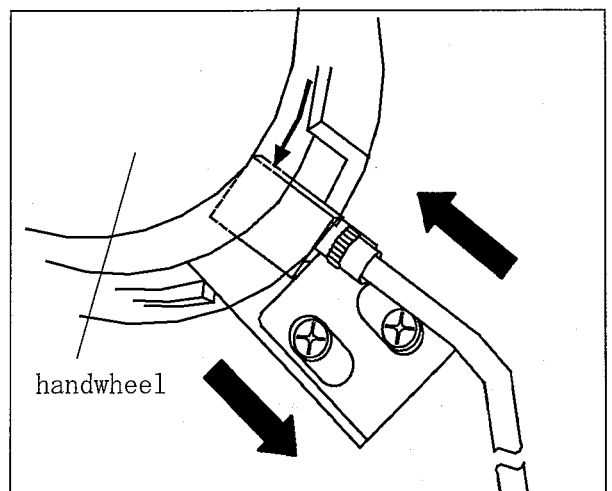

Fig. 6
- If the needle stops before the highest position, move the synchronizer ② to the left. (Fig. 6)